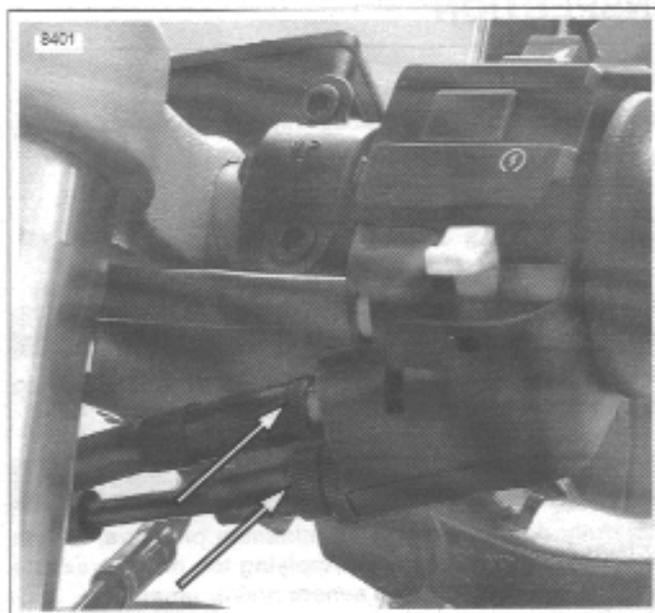

Figure 1-49. Throttle Cable Adjusters
2. See Figure 1-49. Loosen cable adjuster lock (thick disc) on each cable.